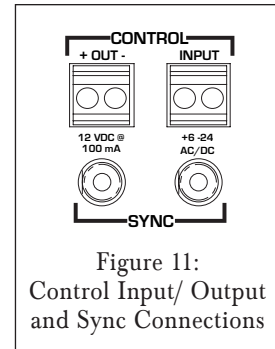

Figure 11:
## Control Output, Control Input and Sync Connections (see Figure 11)
**Trigger Wire:** Connect a 2-conductor non-shielded wire from the trigger voltage source on the Paging device to one C4630 SE's CONTROL INPUT terminal (see Figure 11, on page 16), and daisy-chain to the CONTROL INPUT terminals of all other C4630 SEs in the system. (Use 20AWG wire for runs up to 500'; 18AWG wire for runs up to 1000'.)